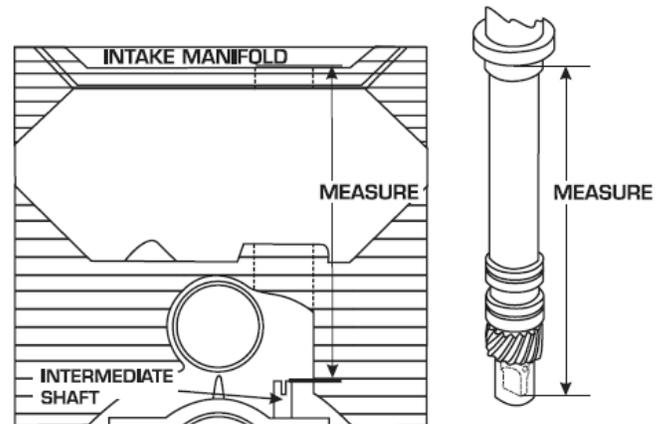

Figure 3 - Oil Pump Shaft to Distributor Shaft Overlap
1. Measure the distance between the base of the slip collar and the tip of the distributor shaft (**See Figure 3**).
2. Using a straight edge, measure the distance from the intake manifold distributor flange to the top of the oil pump intermediate shaft (**See Figure 3**).